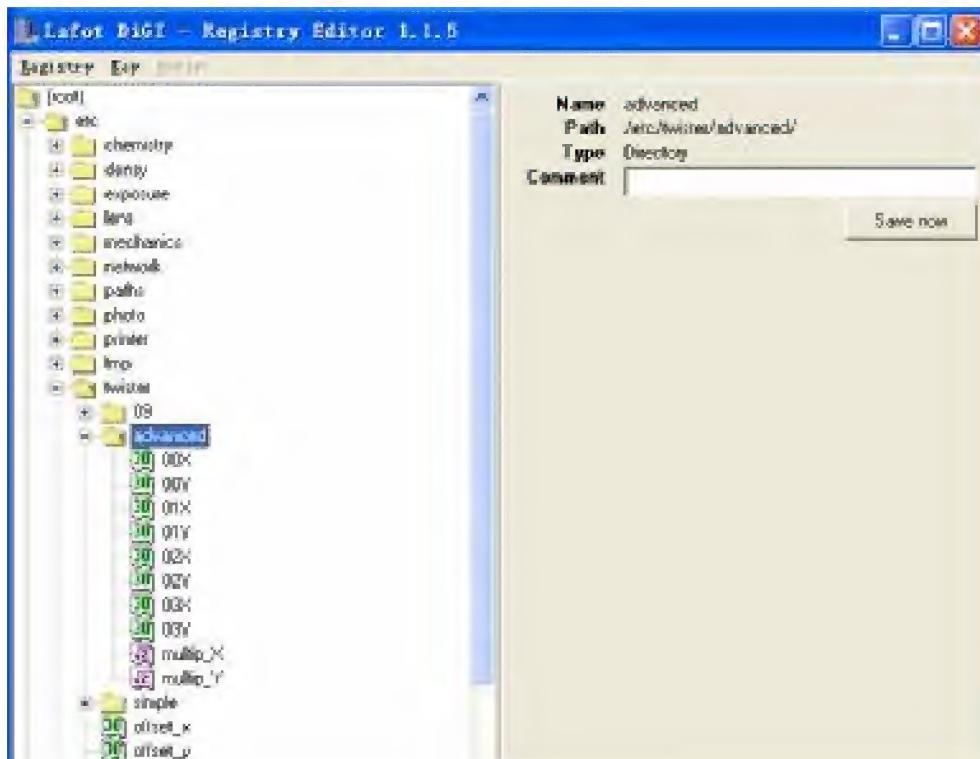

Fig 2.5.2
- Specify etc/twister/advance (Fig 2.5.2).